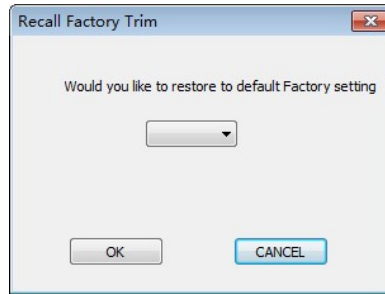

Figure 5.31 Restore to factory default settings
- Click the "Calibration "->" restore factory settings "->" restore to factory default settings", pop up "restore factory settings" window, as shown in Figure 5.31: